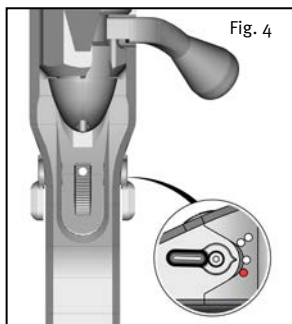

Fig. 4
Safety Position (Fig. 4):
1. Move rotary safety of the rifle to Safety Position (Fig. 4).
By turning the bolt handle 70° upwards and retracting the bolt the dust cover, ejection port is opened automatically and the spent cartridge shell will be extracted and ejected. Moving the bolt forward will feed a new cartridge into the cartridge chamber of the barrel. Relock the bolt by turning the bolt handle. Move rotary safety back to Safety Position (Fig. 4)
1. Move rotary safety in Safety Position (Fig. 4).
4. Move rotary safety slide to Safety Position (Fig. 4).